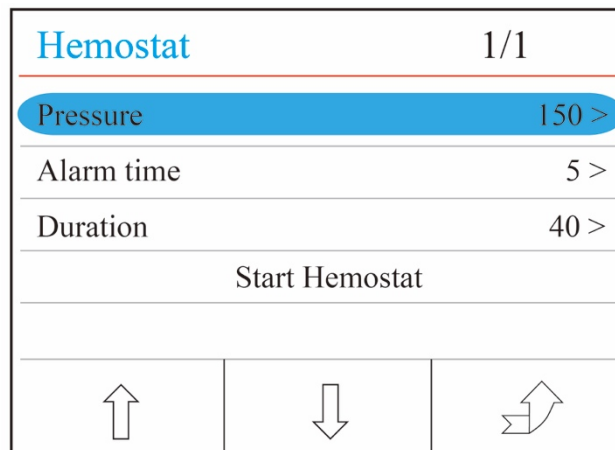

Figure 4.14 Hemostat setup screen
- ✧ **"Hemostat"**: press it to enter into Hemostat setup screen, as shown in figure 4.14.